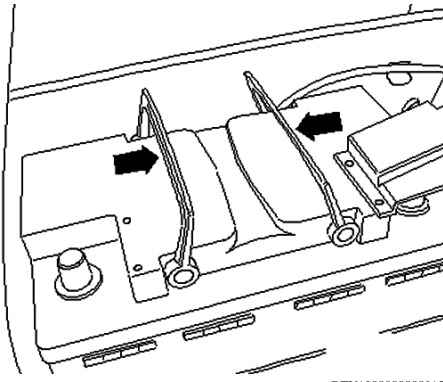

Fig. 5 Battery removal
11. Fold up handles (arrows) and remove battery, **Fig. 5**.